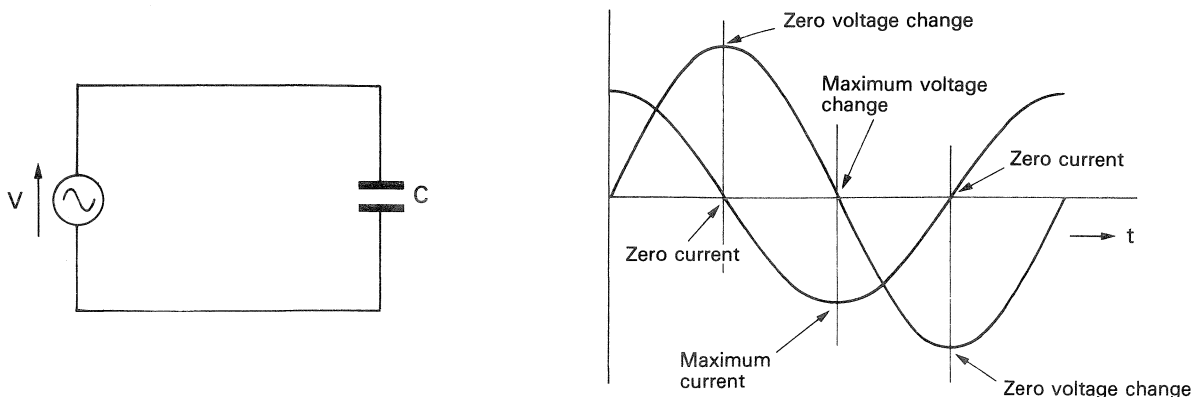

Fig. 14 Relation between sine wave voltage & current
The same thing happens when a sine wave AC power source is connected instead of the battery. The current reaches its maximum when the voltage change peaks at 0 (V) and it then reaches zero at the positive and negative peaks where the voltage change is at the minimum (zero). Therefore, the voltage and current waveforms can be expressed as those shown in Fig. 14.